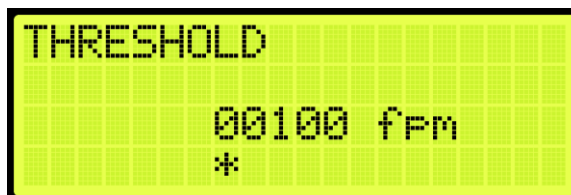

Figure 507: THRESHOLD Menu
4. From the THRESHOLD menu, set the threshold distance (See Figure 507).